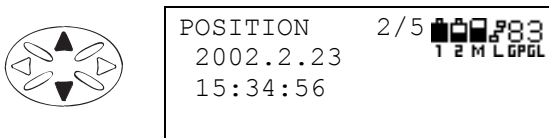

Figure 3-65. Current Date and Time
- the current date and time (Figure 3-65).